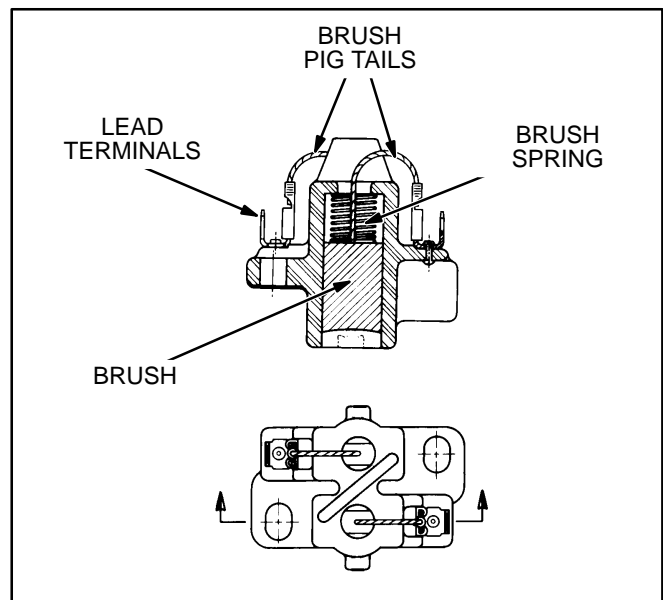

FIGURE 47. BRUSH BLOCK ASSEMBLY
4. Replace the brushes and brush springs with new parts. Connect each brush pigtail to the terminal on its side of the insulating divide (Figure 47).